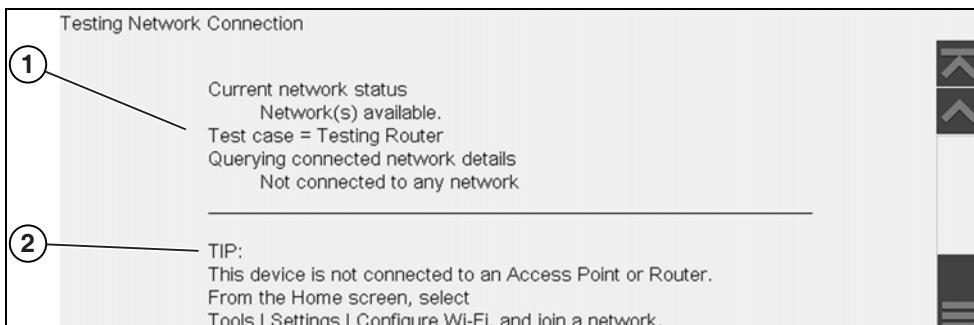

Figure 13-5 View Summary
4. If a connection issue(s) is present, select **View Summary** to review the results. The summary information is helpful if you are experiencing difficulties with your connection (Figure 13-5). Scroll through the summary information to review the test results for each system and Tip messages for the current connection issue. See *Connection Tests - Troubleshooting* chart in “Wi-Fi Troubleshooting and Status Messages” on page 101 for additional information.